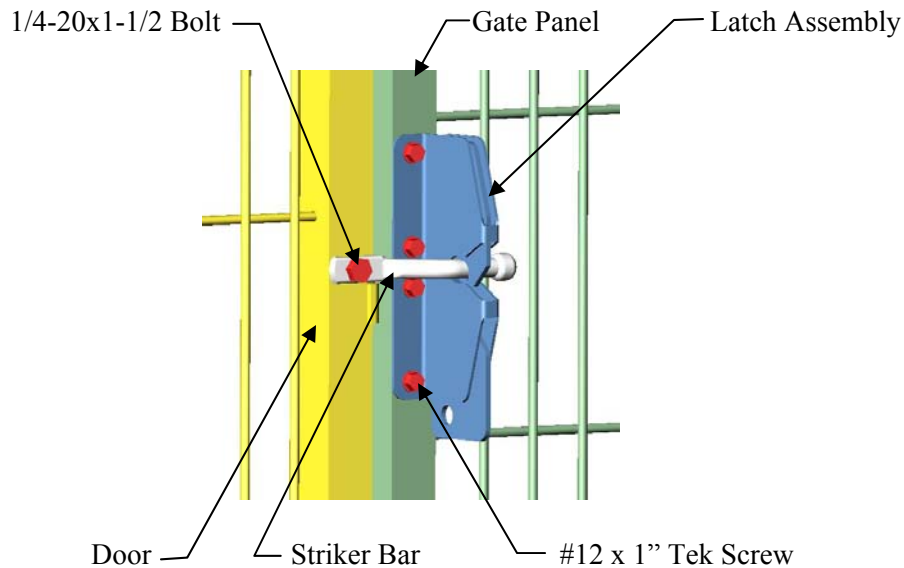

Figure 38
1. Install the Striker Bar to the pre-drilled Door using a 1/4"-20 x 1-1/2 Hex Bolt and 1/4"-20 Nylock Nut (**Figure 38**). Position the Striker bar into a horizontal position.
2. Hold the Latch Assembly in place against the Gate Panel and close the Door. Make sure to center the Striker Bar within the latch pocket and latch looks straight. Using (4) 1" Tek Screws, attach the Latch Assembly to the Gate Panel (**Figure 38 & 38A**).